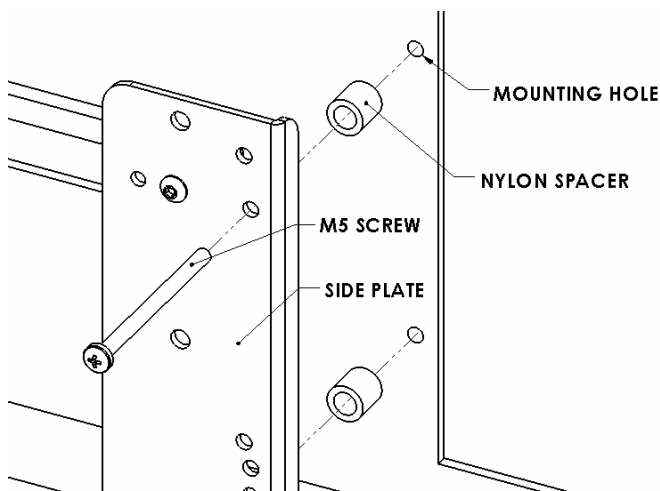
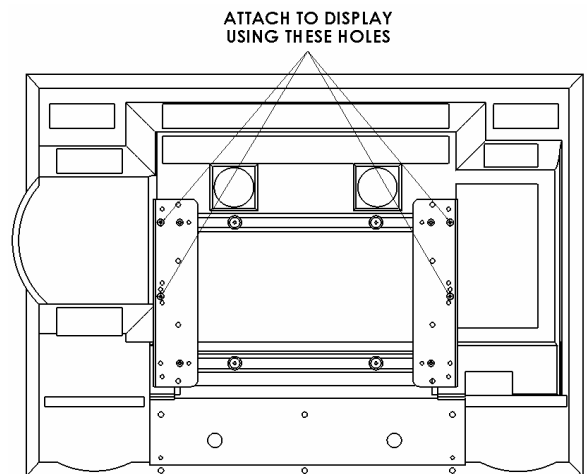

Figure 8
Figure 9
5. **Bracket Installation:** Place nylon spacers over mounting holes of screen and attach brackets to back of display using the M5 screws (see Figure 8 & Figure 9). Do not over tighten screws.